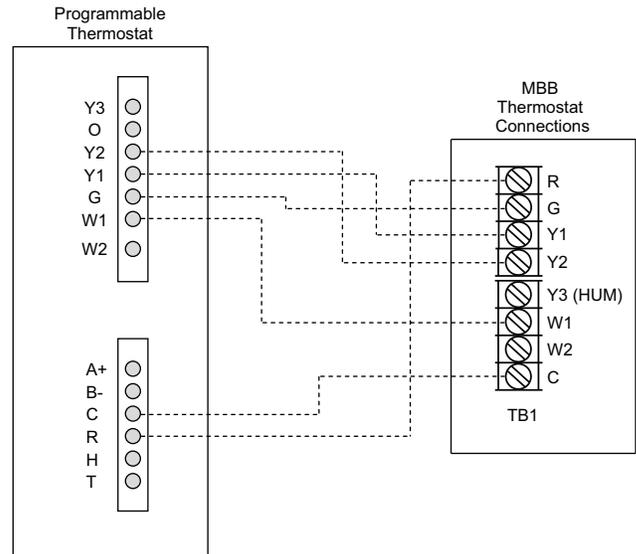

Fig. 44 — Typical Thermostat Connections – SystemVu Controller MBB
5. For connections to the SystemVu controller MBB (Main Base Board) see Fig. 44. Refer to the installation instructions included with the Carrier Connect Plus thermostat for more information.